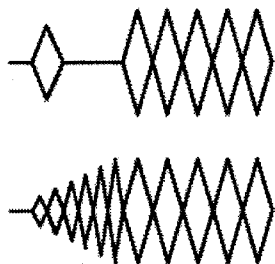

Fig. 2-7
- ② Fig. 2-7 shows the RF waveform in which the indication will result in a bar indication in ① mode (the ABS time CANNOT be read due to a missing or distorted waveform).
- * If the waveform is as in Fig. 2-7 in F.FWD mode, replace the soft brake (⑱ in VIEW-4 on page 6-8) or coil spring (⑳ in VIEW-4) at the supply reel side.
- * If the waveform is as in Fig. 2-7 in REV mode, replace the soft brake (⑱ in VIEW-4 on page 6-8) or coil spring (㉑ in VIEW-4) at the take-up reel side.